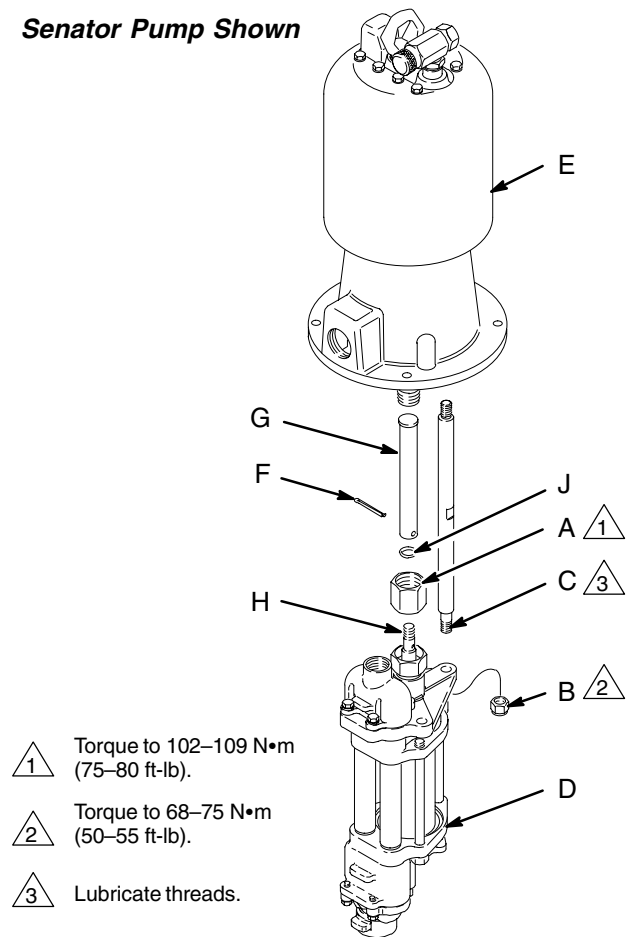
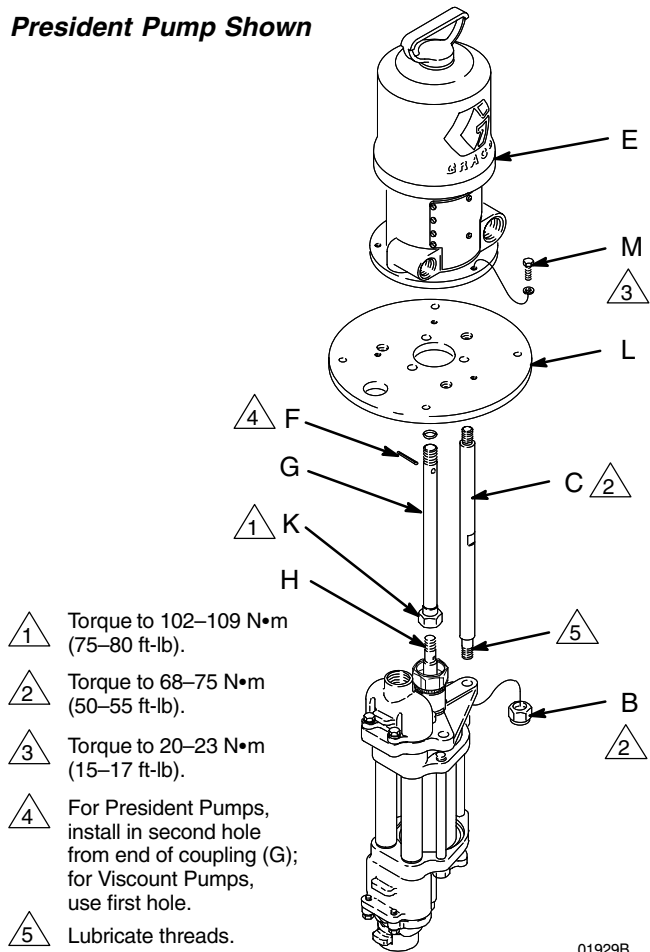
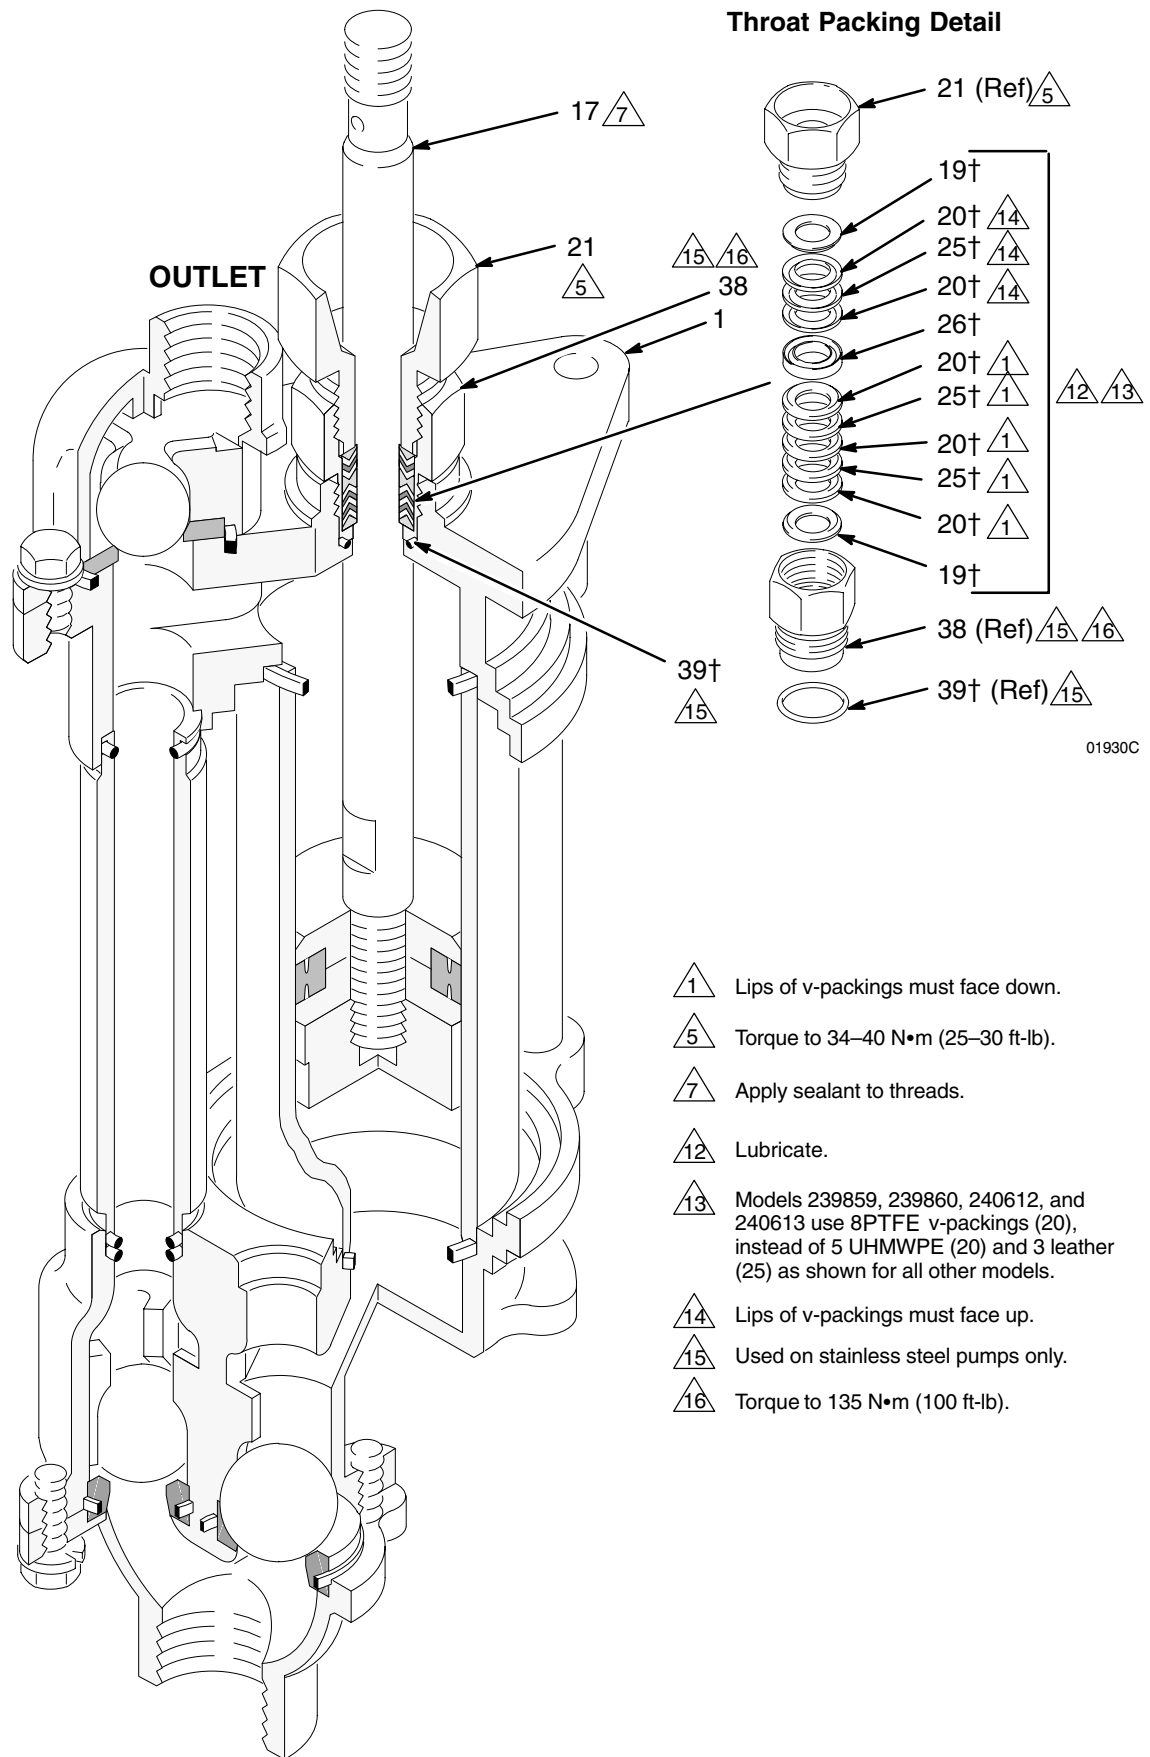

Fig. 7
Fig. 10
Fig. 11
- **For Senator and Bulldog pumps (Fig. 7):** Unscrew the coupling nut (A). Unscrew the locknuts (B) from the tie rods (C). Pull the displacement pump (D) off the motor (E). Remove the pin (F) and screw the coupling (G) off the piston rod (H).
- **For Senator and Bulldog pumps (Fig. 7):** Make sure the coupling nut (A) and o-ring (J) are in place on the coupling (G). Screw the coupling onto the piston rod (H) and install the pin (F). Orient the displacement pump (D) to the motor (E) as shown. Position the displacement pump (D) on the tie rods (C). Lubricate the threads of the tie rods. Screw the locknuts (B) onto the tie rods loosely. Screw the coupling nut (A) onto the motor shaft and torque to 102–109 N•m (75–80 ft-lb). Torque the tie rod locknuts to 68–75 N•m (50–55 ft-lb).
1. Loosen, but do not remove, the screws (M) holding the adapter plate (L) to the motor (E). See Fig. 10.
2. Screw the tie rods (C) into the adapter plate (L) and torque to 68–75 N•m (50–55 ft-lb).
4. Remove the cotter pin (F). See Fig. 7 for Senator and Bulldog Pumps, and Fig. 10 for President and Viscount Pumps.
- *Senator and Bulldog Pumps:* See Fig. 7. Unscrew the coupling nut (A) from the motor shaft. Unscrew the coupling (G) from the piston rod (H). Set the coupling and coupling nut aside.
8. See Fig. 11. Loosen and remove the packing nut (21).
9. *Stainless Steel Pumps Only:* Loosen and remove the throat cartridge (38). Remove the PTFE® o-ring (39).
11. Lubricate the throat packings and glands. Install one male gland (19†), then five v-packings *with the lips facing down:* one UHMWPE (20†), one leather (25†), UHMWPE, leather, UHMWPE. Install the female gland (26†). Install three v-packings *with the lips facing up:* UHMWPE, leather, UHMWPE. Install the other male gland (19†). Install the packing nut (21) finger-tight.
- NOTE:** Model 239859, 239860, 240612, and 240613 displacement pumps use 8PTFE v-packings (20) in the throat, instead of 5 UHMWPE (20) and 3 leather (25) as on all other models.
12. *Stainless Steel Pumps Only:* Install the o-ring (39†) on the throat cartridge (38), then screw the throat cartridge into the upper pump housing (1). Torque the throat cartridge to 135 N•m (100 ft-lb).
13. Torque the packing nut (21) to 34–40 N•m (25–30 ft-lb).
- *Senator and Bulldog Pumps:* See Fig. 7. Make sure the coupling nut (A) and o-ring (J) are in place on the coupling (G). Screw the coupling onto the piston rod (H). Screw the coupling nut (A) onto the motor shaft and torque to 102–109 N•m (75–80 ft-lb).
- *President and Viscount Pumps:* See Fig. 10. Screw the coupling (G) into the motor shaft until the pin holes align. Screw the coupling nut (K) onto the piston rod (H) and torque to 102–109 N•m (75–80 ft-lb).
15. Reinstall the pin (F). If necessary, reconnect the air or hydraulic supply and move the pump to the middle of its stroke. Install the pin (F) in the **second hole** from the end of the coupling for President pumps, and in the **first hole** from the end of the coupling for Viscount pumps.